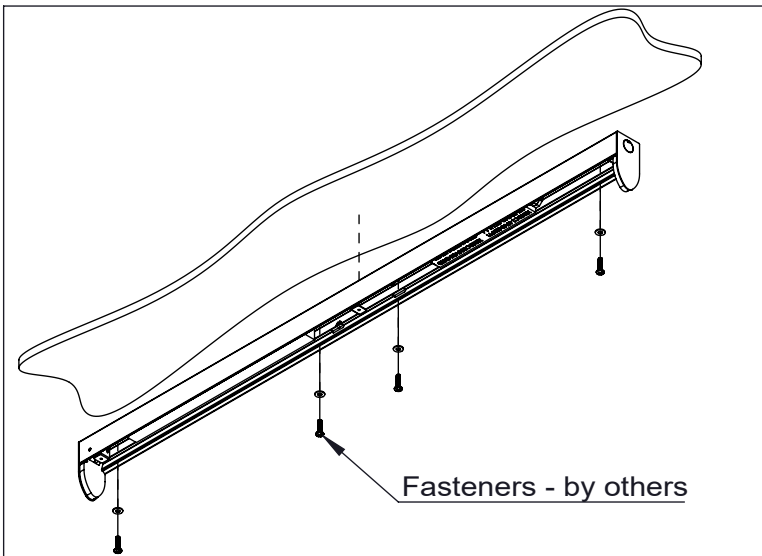

Figure 3
3. Install fixture into ceiling (Fig. 3).